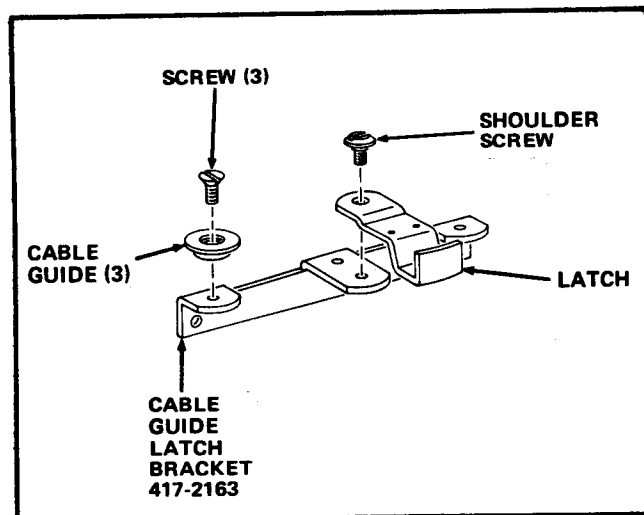

FIGURE 19
5. Install the Latch on the Cable Guide Latch Bracket, Part Number 417-2163, included in the Kit and attach the Latch with the Shoulder Screw removed in Step 4. See Figure 19.
6. Install the 3 Cable Guides on the Cable Guide Latch Bracket and attach them with the 3 Screws removed in Step 3. See Figure 19.